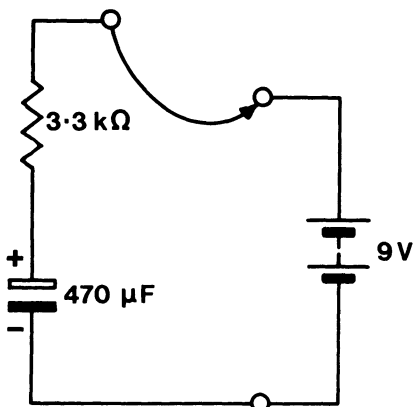
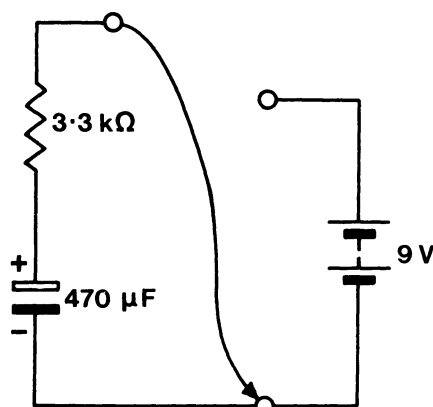

FIG. 1.23a
FIG. 1.23b
1. Connect a  $470\ \mu\text{F}$  electrolytic capacitor, a  $6.8\ \text{k}\Omega$  resistor and a  $9\ \text{V}$  battery in series as in Fig. 1.23a. Using a voltmeter, watch what happens to the voltage across the capacitor when the battery is connected in circuit. You will see that the voltage increases, at first quite quickly, then as time passes, more slowly. When the voltage across the capacitor has become steady, disconnect the battery from the circuit and connect the resistor and capacitor together as shown in Fig. 1.23b. You should now find that the voltage across the capacitor drops, quickly at first then gradually more slowly. When the voltage across the capacitor is increasing the capacitor is said to be *charging up* and when it is decreasing it is said to be *discharging*.